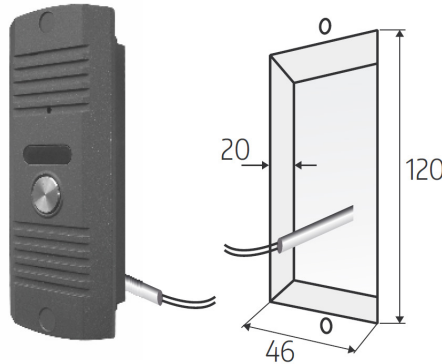

fig. 3
The outdoor unit is factory adapted for surface mounting, on the wall. Fig. 3 and 4 present the installation process.
1. Drill a hole in the wall matching the size of the mounting box and attach it to the wall (fig. 3).